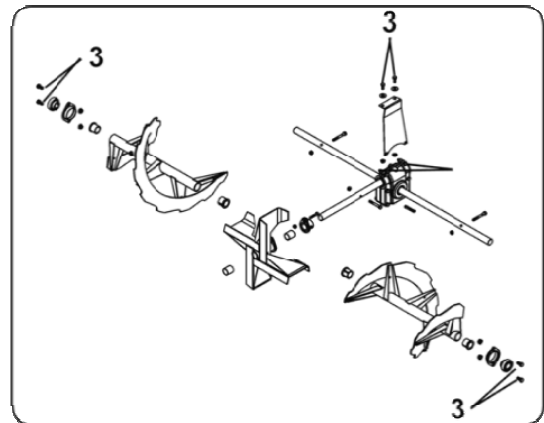

Figure 29– Remove the bolts
7. Remove all the bolts (item 3) and nuts supporting the gear box, its support and augers.
9. Replace the appropriate parts making sure to reassemble the parts as shown in figure 29;